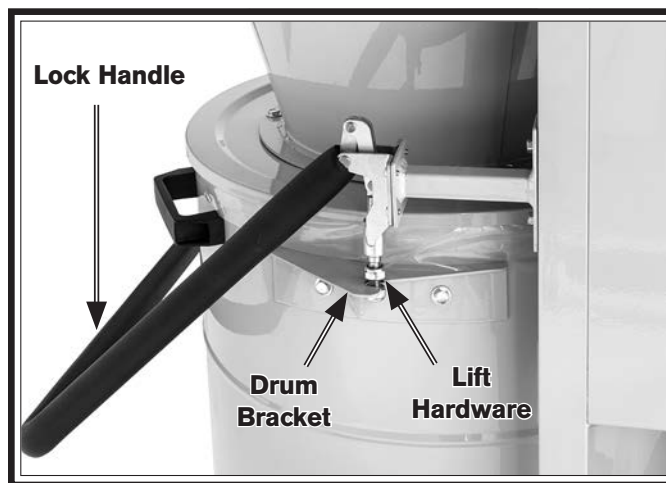

Figure 28. Collection drum secured and sealed by lift hardware.
- 26.** Roll drum under lid so that drum brackets slide over lifting hardware, then lower lock handle to lift and seal drum (see **Figure 28**).